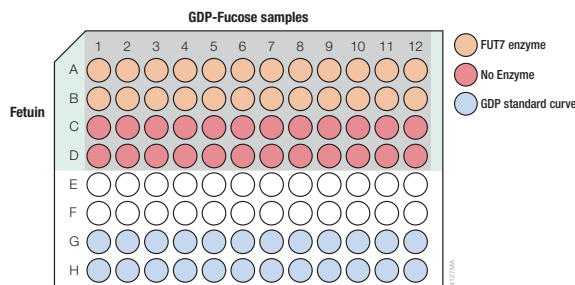

Figure 7. GDP-Fucose titration in a 96-well plate.
- Following the plate setup in Figure 7, transfer 25 μ l of GDP standard serial dilution in duplicate into the wells designated for the standard curve.